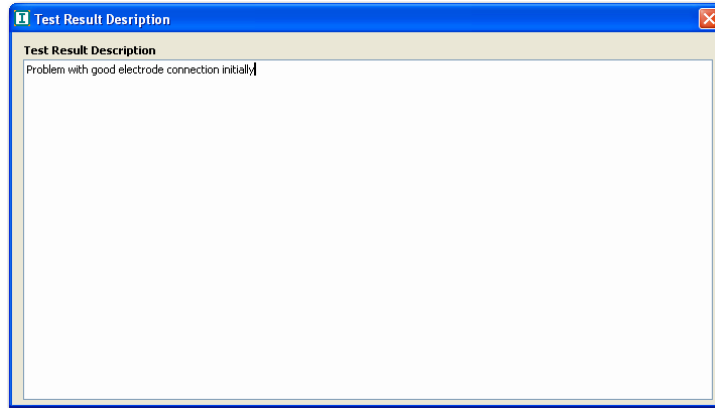

Figure 47 Test report screen
1. Select the **Report** button to open a **Report screen** (Figure 47).
If **Test Report** is selected, the report will contain the information entered via the **Report** button (Figure 47):